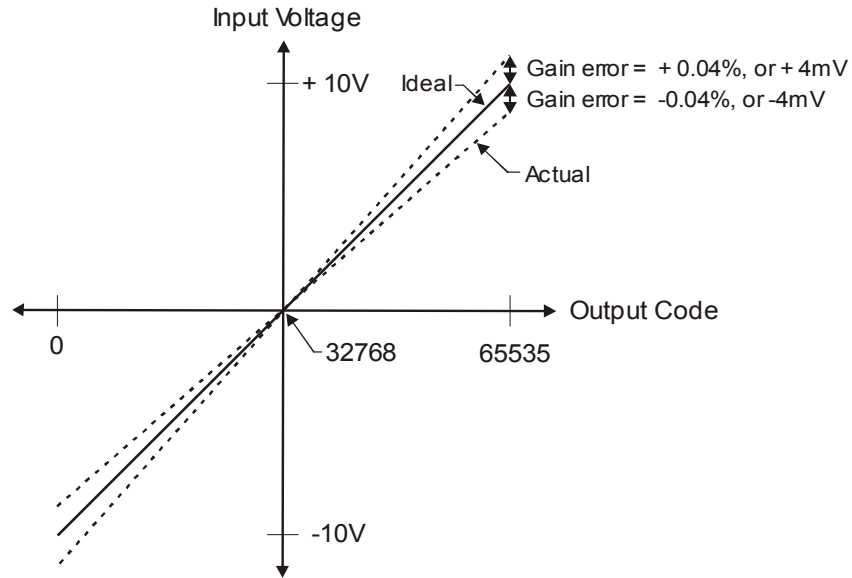

Figure 10. ADC Transfer function with gain error
Gain error is a change in the slope of the transfer function from the ideal, and is typically expressed as a percentage of full-scale. Figure 10 shows the RedLab 1608FS transfer function with gain error. Gain error is easily converted to voltage by multiplying the full-scale input ( $\pm 10$  V) by the error.
**The accuracy plots in Figure 10 are drawn for clarity and are not drawn to scale.**